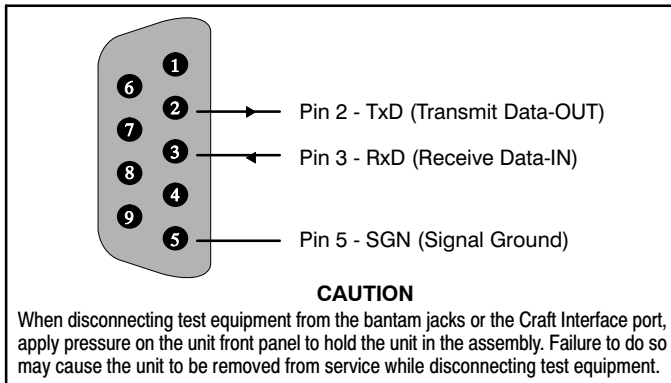

Figure 11. Front Panel RS-232 (DB-9) Pin Assignments
The 3115-60 provides a front-panel RS-232 connector for local access of performance statistics data without placing the unit into loopback. See Paragraph 7.1.2 and Figure 11.
9.1.2 The craft interface port is a DB-9 connector with an electrical RS-232 female interface in a DCE configuration. The craft device can be a terminal operating in the VT-100 protocol or a PC running a VT-100 terminal emulator program. If a VT-100 terminal is used a "null-modem" cable may be required between the terminal and the NIU. If a PC with VT-100 emulator program is used, a standard RS-232 cable can be used. The RS-232 port should be set up for 9600 baud, no parity, and one stop bit (NP,1S). The electrical connections to the craft port are shown in Figure 11.